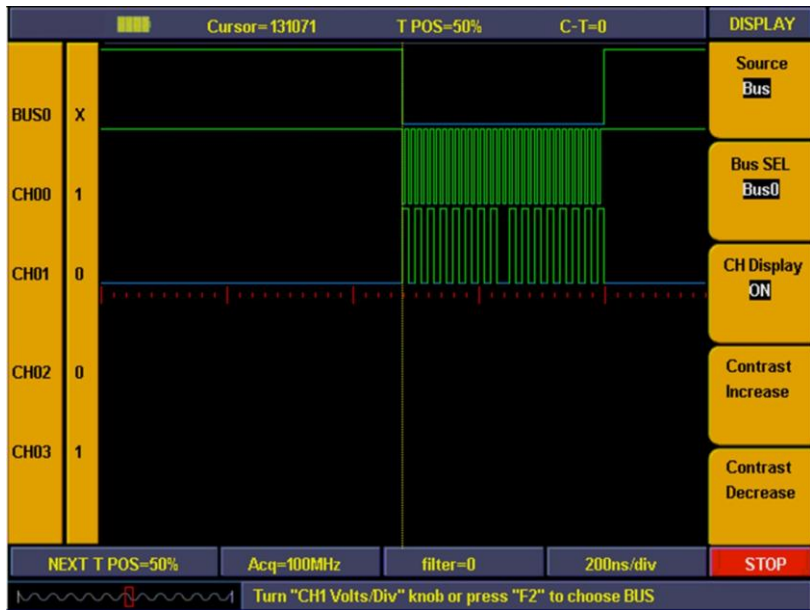

Fig. 14
7. Press "**F3**" and set signal sources as "**OFF**". Repeat operation of steps 6.7 and set BUS1, BUS2, BUS3 all as "OFF". Ref to Fig. 14.